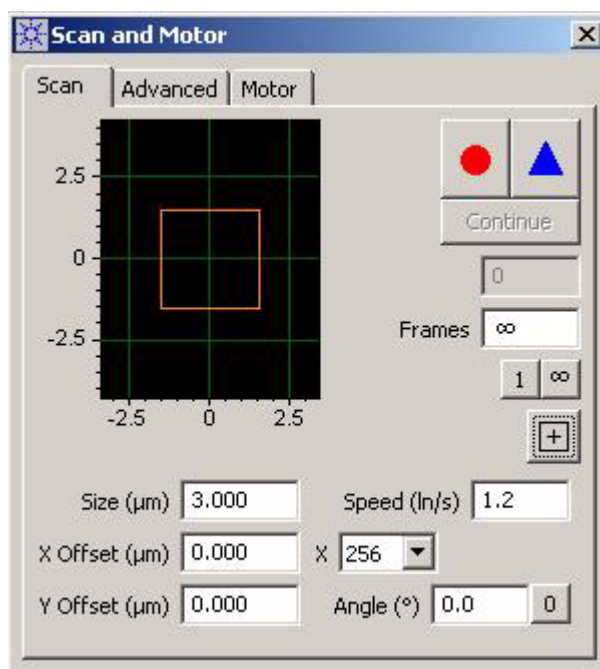

Figure 68 Scan and Motor window: Scan tab
- 15 In the **Scan and Motor** window, select the **Scan** tab (Figure 68).
- 17 Select a resolution from the **X** list. **256** is a good starting value, providing ~11 nm/pixel resolution for the 3 micron scan size selected in Figure 68.
Depending on the Frames setting in the Scan and Motor window, the system will either scan once and stop, or it will scan infinitely, overwriting the previous scan each time. You can also choose to scan for a specific number of frames. To stop the scan, click the red STOP circle that will replace the Up or Down arrow when you start a scan (Figure 68 on page 97).